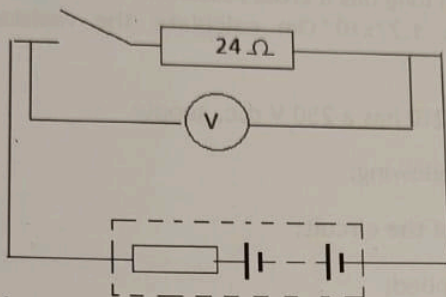

Fig Q7
- (a) the indicated power; (3)
- (b) the brake power; (2)
- (c) the brake specific fuel consumption; (3)
- (d) the mechanical efficiency. (2)
- (a) the mass of air required burn the fuel; (6)
- (b) the mass of oxygen in the exhaust. (2)
6. Describe how the vapour compression refrigeration cycle achieves cooling. (8)
7. The circuit in Fig Q7 has a voltmeter as shown. When the switch is open the reading on the voltmeter is 30 V, when the switch is closed the voltage drops to 26.67 V.
- (a) Explain the reason for the change in the voltmeter readings. (4)
- (b) Determine the resistance of the cell. (4)